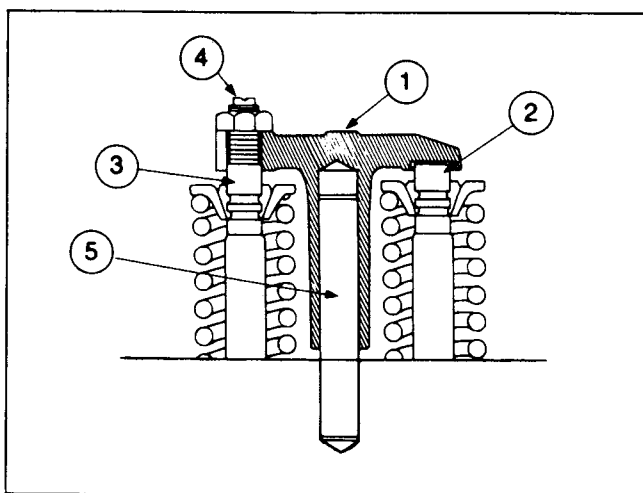

Fig. 2-50, (N21461). Valve crosshead
1. Loosen valve crosshead adjusting screw locknut and back off screw (4, Fig. 2-50) one turn.